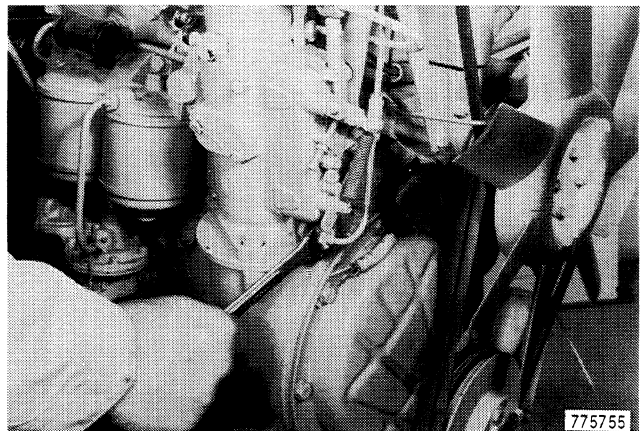

Figure 9
5. Disconnect the injector return tube at the injector pump, Figure 9.